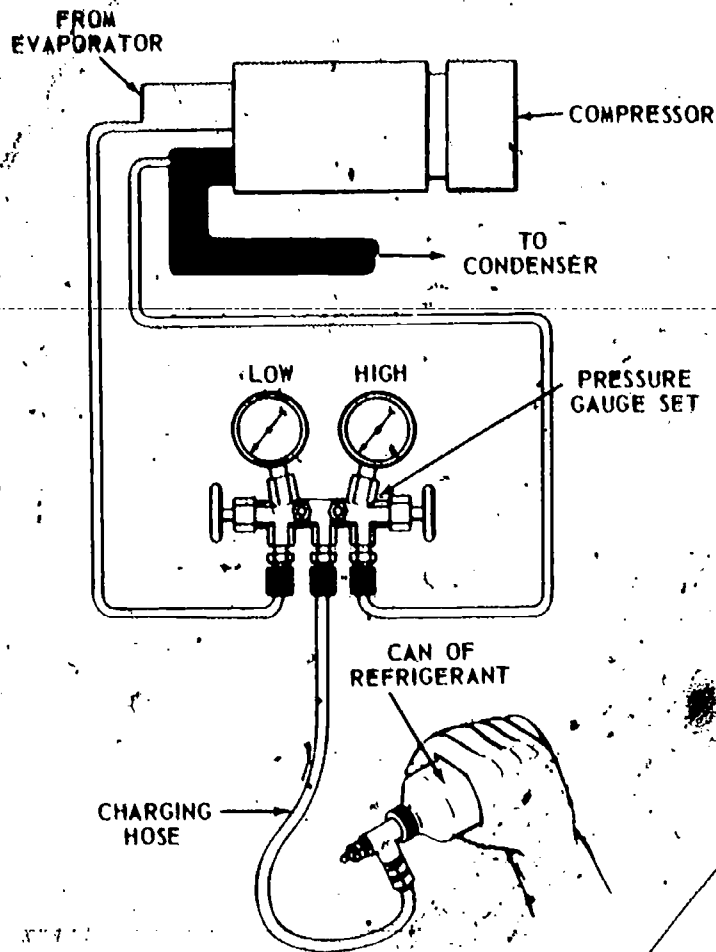

Fig. 83 — Add Refrigerant Until Gauges Normalize and Bubbles in Sight Glass Disappear
2. Install charging hose to dispensing valve (Fig. 83).
3. Invert container(s) to allow refrigerant to enter high side of system. (See Fig. 83).